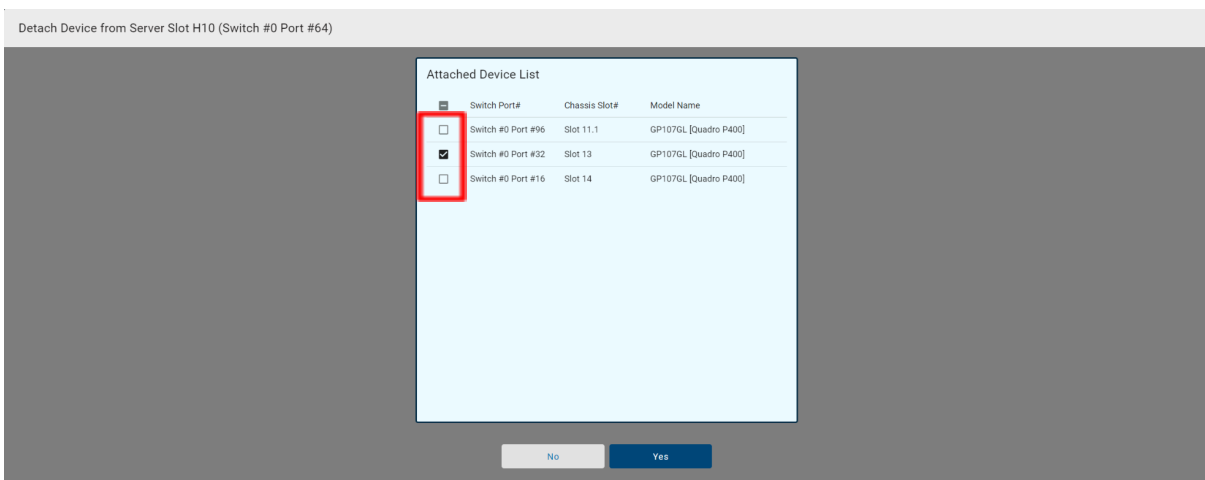

Figure 74. Checking the GPUs for Detachment
D. From the Attached GPUs column, check the GPUs you want to unassign (refer to Figure 74).